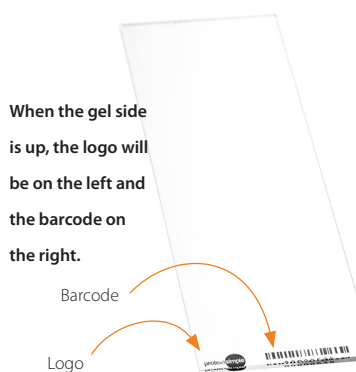

Figure 5-2: *scWest gel orientation.*
- 2 Remove the correct number of scWest chips from the cannister and place each in a separate clean Petri dish with the gel facing up. If the logo is on the left and the barcode on the right, the gel is facing up (Figure 5-2). The gel also faces upwards when the "ProteinSimple" logo and barcode are legible. Take care not to touch the gel surface of the chip. Powder-free gloves are recommended. If using nitrile or powdered gloves, wash gloved hands with soap and water before handling chips to minimize chip fouling.